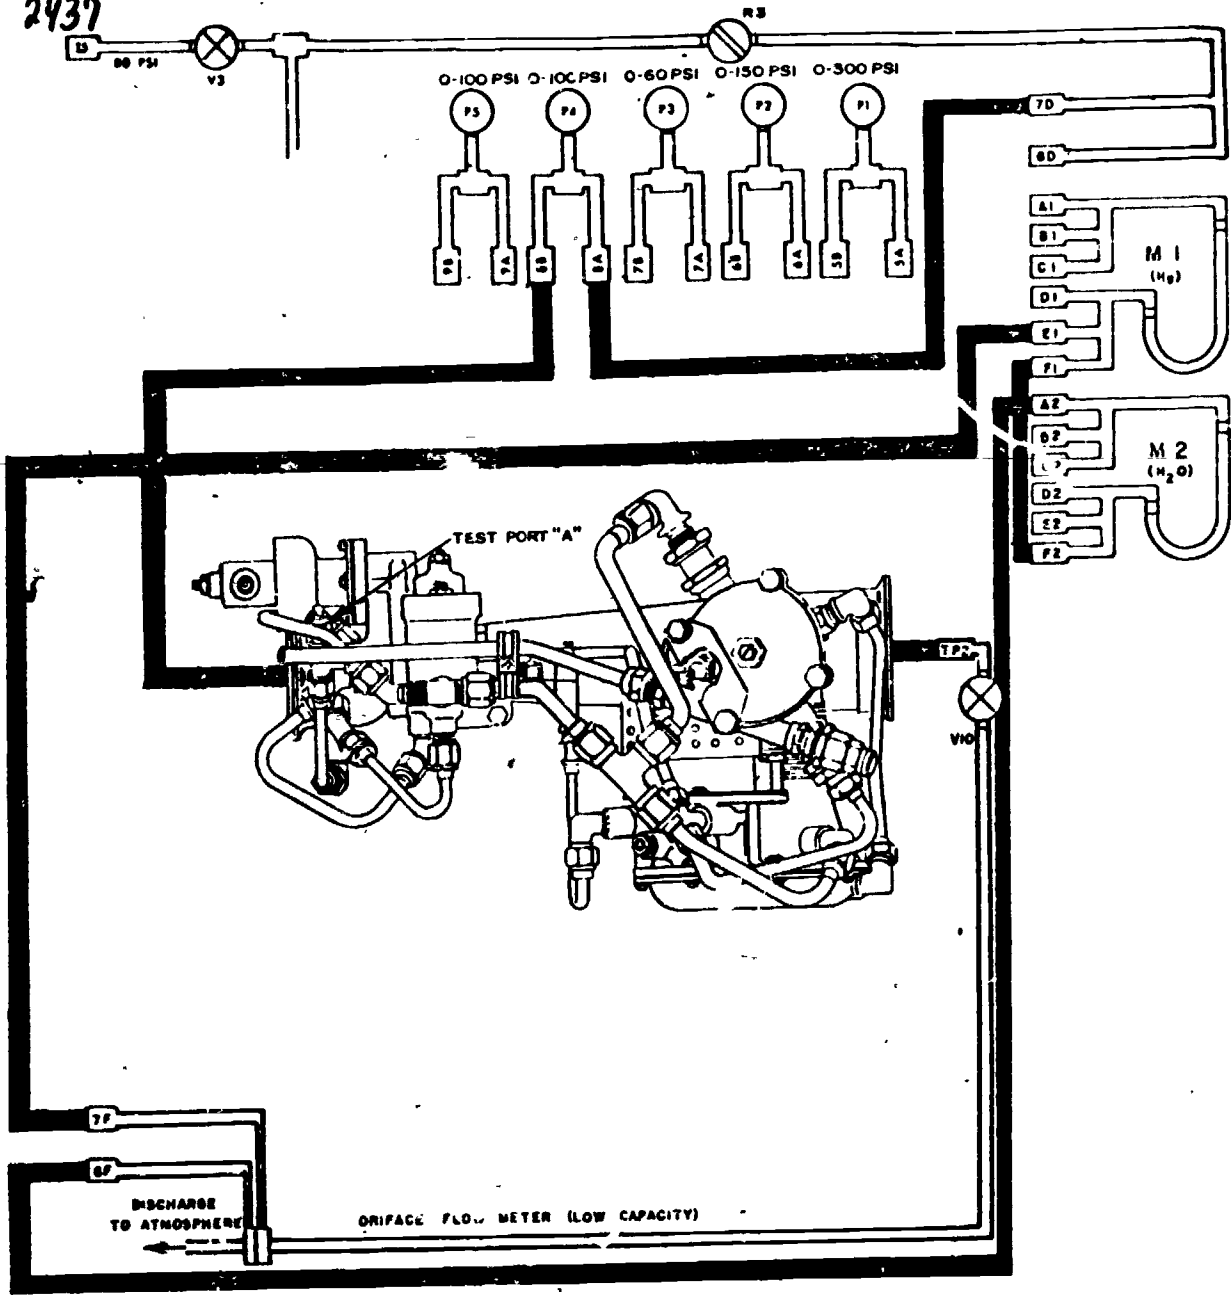

Figure 4.
2. Connect the pneumatic hoses, shown in figure 4 by the heavy black lines, to the trainer pneumatic patching panel and the valve.